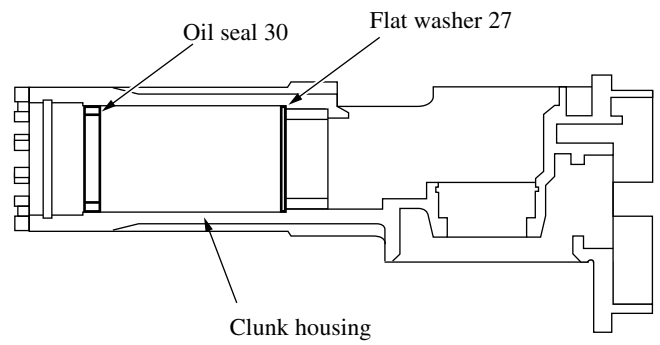

Fig. 12
- 1) After attaching Flat washer27 to Clunk housing, install Oil seal 30. (See Fig.12)
- NOTE: Check that Flat washer 27 is not inclining and is in a position shown in Fig. 12 .